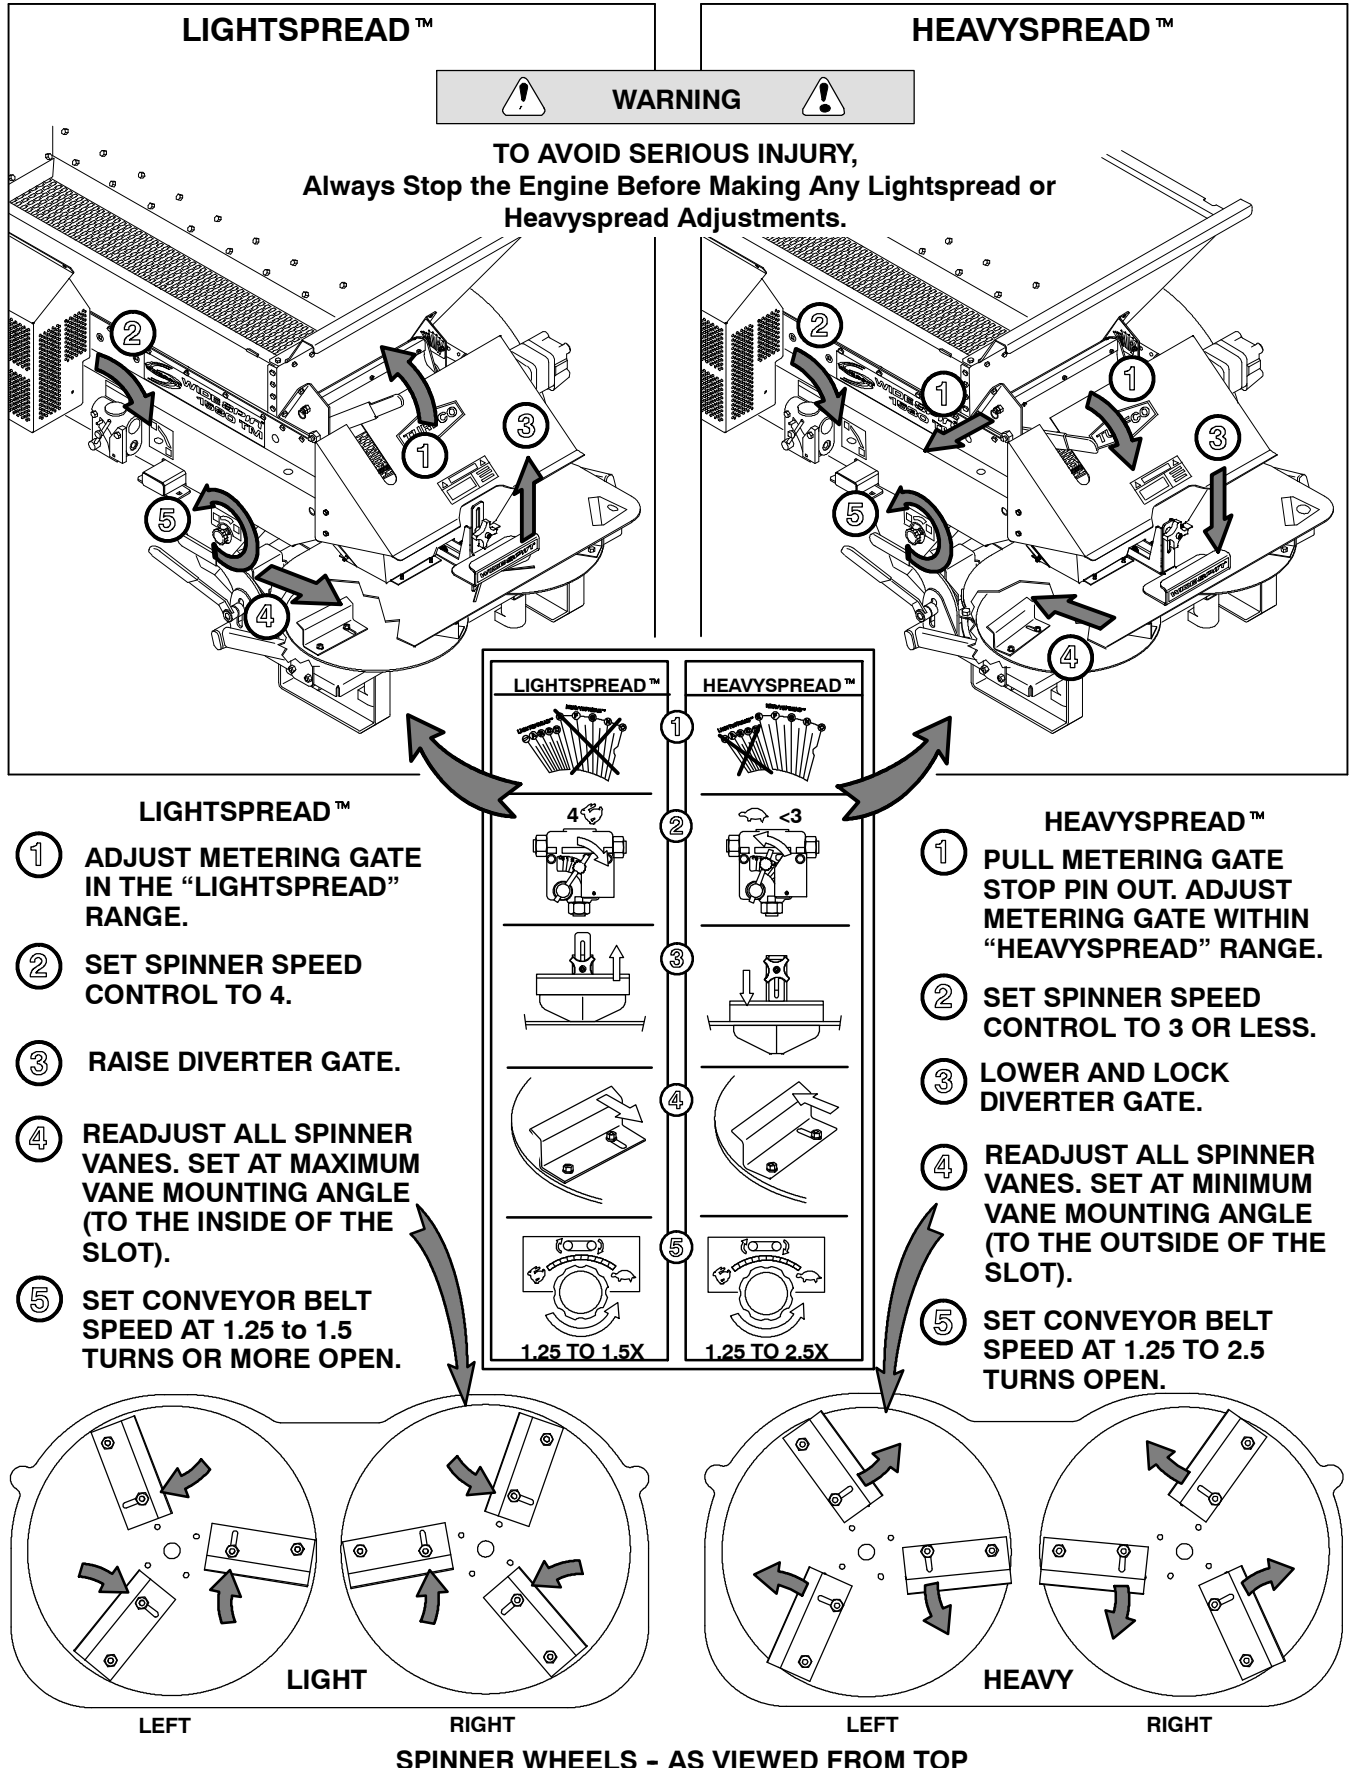

FIGURE 6
④ **Adjusting Spinner Wheel Vanes** (See Figures 6 and 7)
The mounting angle is adjusted by loosening the inside locking screw on the vane (it is not necessary to loosen the screw on the outside), sliding the vane to the other end of the slot on the vane, and retightening the screw. *NOTE:* Because the right and left spinner wheels rotate in opposite direction, the right and left vanes are a mirror image of each other. See Figure 6 for the location and direction of adjustment for each individual vane.